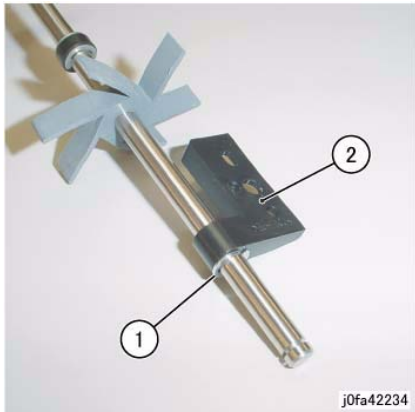

Figure 6 Removing the Support Bearing (j0fa42234)
8. Remove the Support Bearing from the Main Paddle Shaft Assembly. (Figure 6)